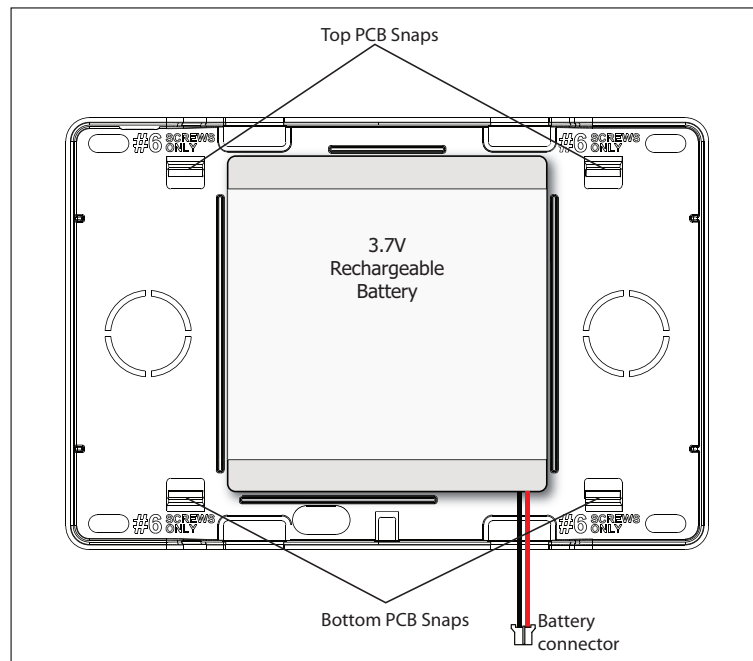

Figure 4: Standby Battery Replacement
5. Place the new battery into the XTL housing base with the battery wires directed toward the bottom right corner. See Figure 4.